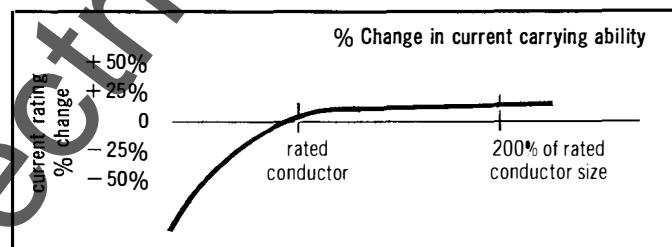

Figure 30.1 Breaker current rating and conductor size are a matched pair; any insulation type may be used but the cross section must remain constant.
- A. Cable size must be equal to, or greater than that specified by Underwriters' Laboratories Inc. Standard for Safety 489. Thermal current measuring systems (bimetals and fuses) incorporate a resistance element which generates heat at a rate proportional to the square of the current. The cable is used as a heat sink to control the temperature of the bimetal; reducing the size of the conductor raises the temperature and the breaker will carry less current. In general the effect of cable size on breaker thermal calibration is illustrated in Fig. 30.1.